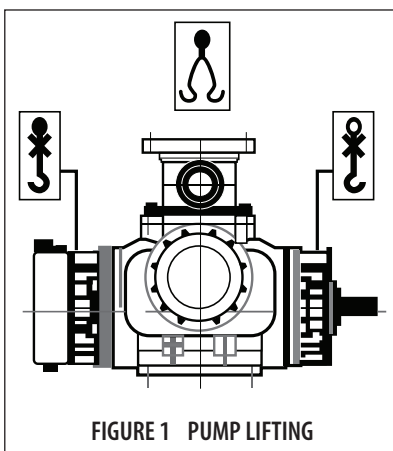

FIGURE 1 PUMP LIFTING
2. When lifting the pump, attach lifting hooks to outlet flanges as seen in Figure 1.